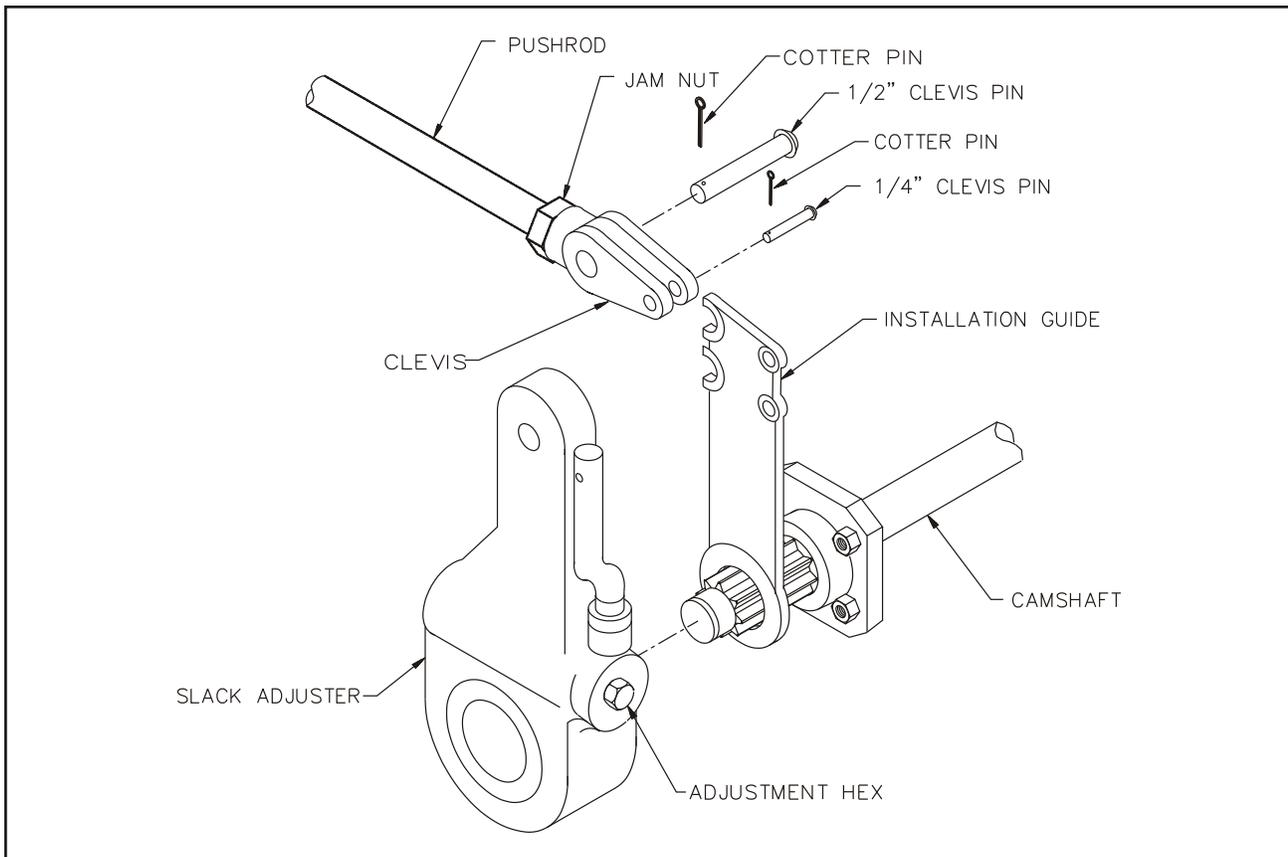

FIGURE 4-11 SLACK ADJUSTER
a. Operational Check (See Figure 4-11)
b. Replacing Slack Adjuster (See Figure 4-11)